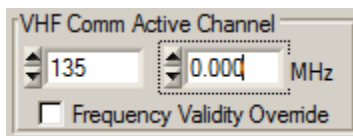

Figure 34 Tuning COM Channel to 135 MHz
- 1) Tune the COM to 135 MHz. (Figure 34).